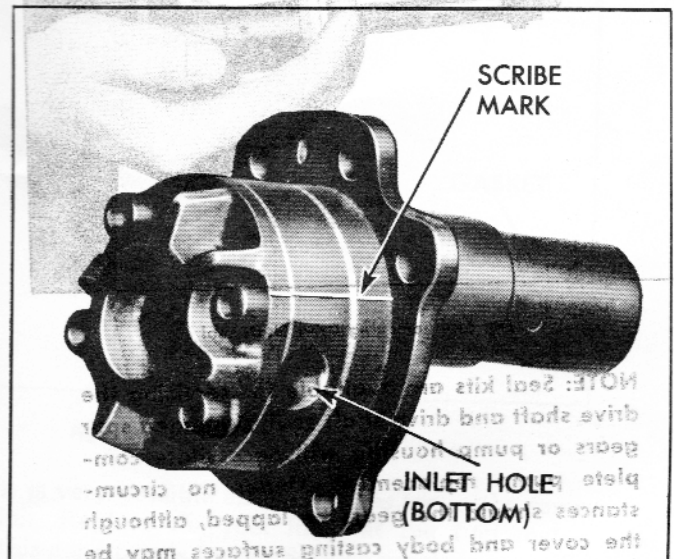

Fig. 52—Marking Reassembly Scribe Line
- Scribe reassembly marks on pump housing, carefully noting that the intake port is located at the bottom of the pump (fig. 52). Remove sealing lead from cover attaching screws, remove screws and cover.